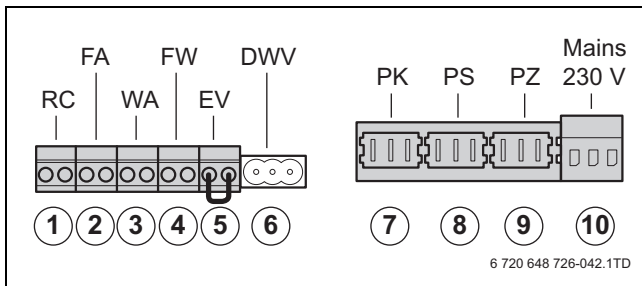

Fig. 42 Terminal strip connections
**DANGER:** Danger of fatal accident due to electric shock. Items 1 – 6 are low-voltage connections and items 7 – 10 are 230 V-connections (→ fig. 42).
▶ Please be aware that there may be a voltage on items 7 – 10 (230 V), when power is supplied to the boiler.